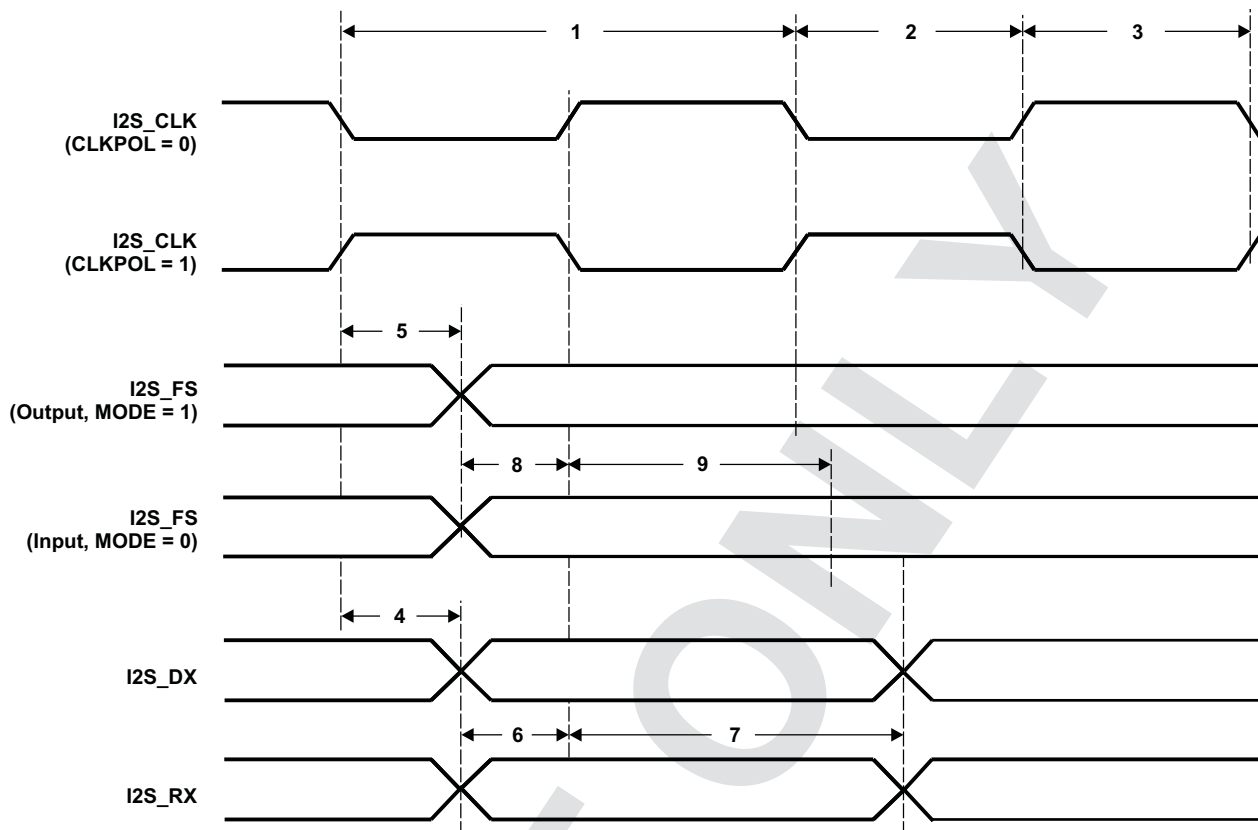

Figure 6-28. I2S Input and Output Timings
**Table 6-35. Timing Requirements for I2S [I/O = 3.3 V, 2.75 V, and 2.5 V](1) (see Figure 6-28)**
(1) P = SYSCLK period in ns. For example, when the CPU core is clocked at 100 MHz, use P = 10 ns.
(2) Use whichever value is greater.
(3) In Slave Mode, I2S\_FS is required to be latched on both edges of I2S input clock (I2S\_CLK).
**Table 6-36. Timing Requirements for I2S [I/O = 1.8 V](1) (see Figure 6-28)**
**[I/O = 3.3 V, 2.75 V, or 2.5 V] (see Figure 6-28)**
[I/O = 1.8 V] (see Figure 6-28)**